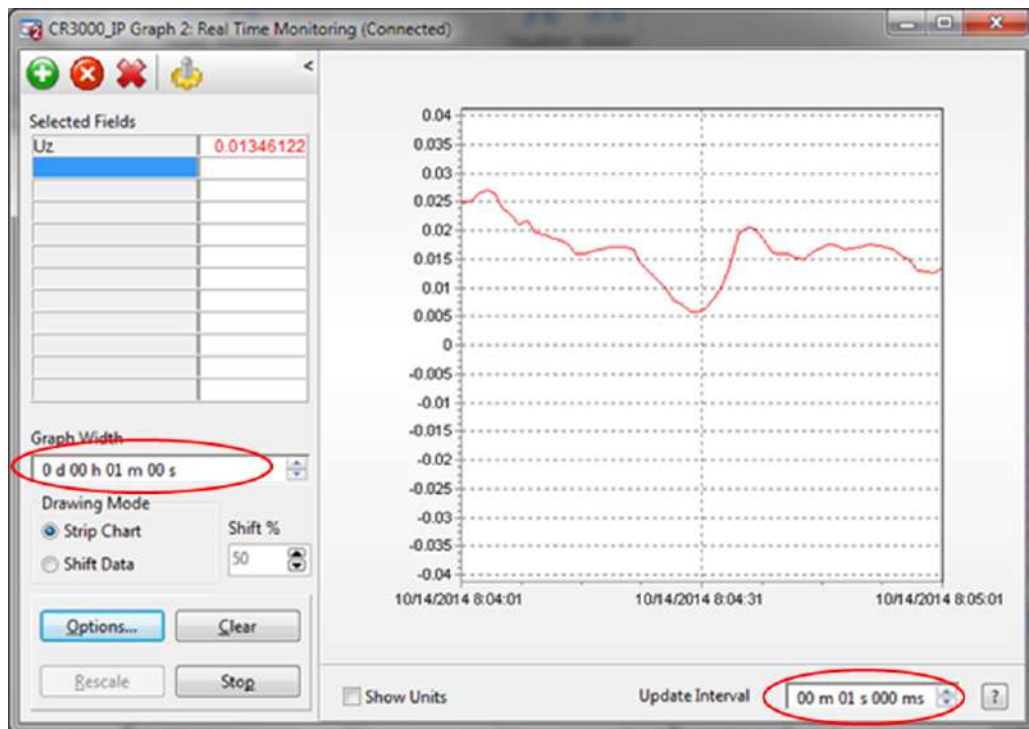

FIGURE 9-4. CSAT3B real-time data with 1 sec update and  $u_z$  wind component graphed
- b. On the second graph add the  $u_z$  wind component and set the y limits from  $-0.04$  to  $0.04$  as shown in FIGURE 9-4.